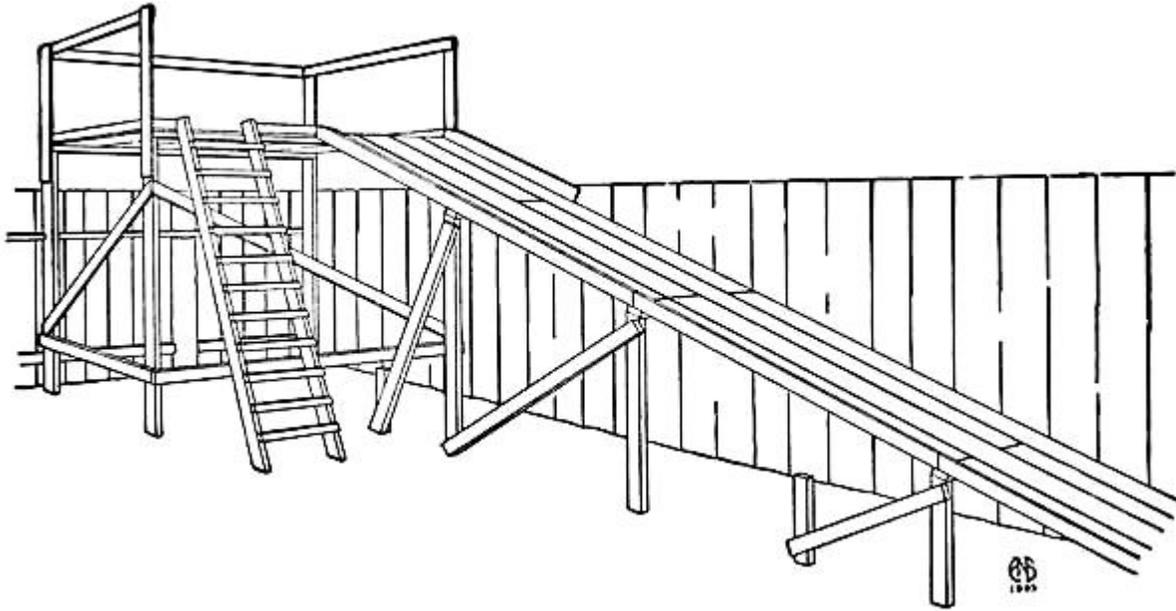

FIG. 310.—A Back-yard Toboggan-slide.
object to which the framework can be fastened, as it saves a great deal of bracing, and materially lessens the amount of lumber needed. The work should be done in the early part of the fall, before the cold weather sets in. Figure 310 shows a slide built in the corner of a yard against the fence.
In order to prevent sleds from running off the slide, a guide should be nailed to the edge farthest from the fence, from the top to the bottom, and on the opposite side where it extends above the fence top (see Fig. 310).
**Build a Railing** out of boards around three sides of it, to prevent any one from slipping off (see Fig. 310).
**A Ladder**, made out of two two-by-fours, with two-inch strips nailed across them, should be set against the front of the platform and spiked in place, as shown in the illustration of the completed slide (Fig. 310). This will make it easier to reach the platform than by the way of the icy slide, and also prevents those coasting from colliding with those who are returning.